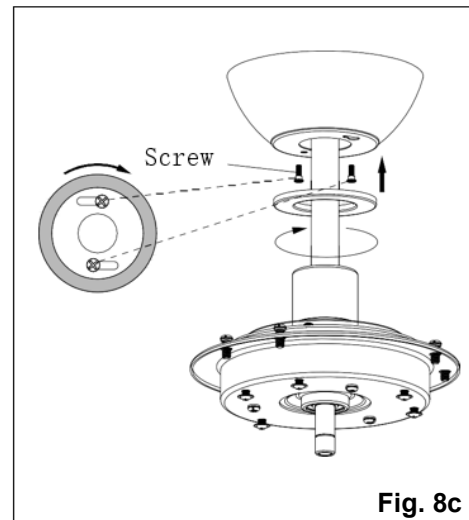

Fig. 8c
- Slide the canopy cover up to the canopy by turning clockwise **(Fig. 8c)**